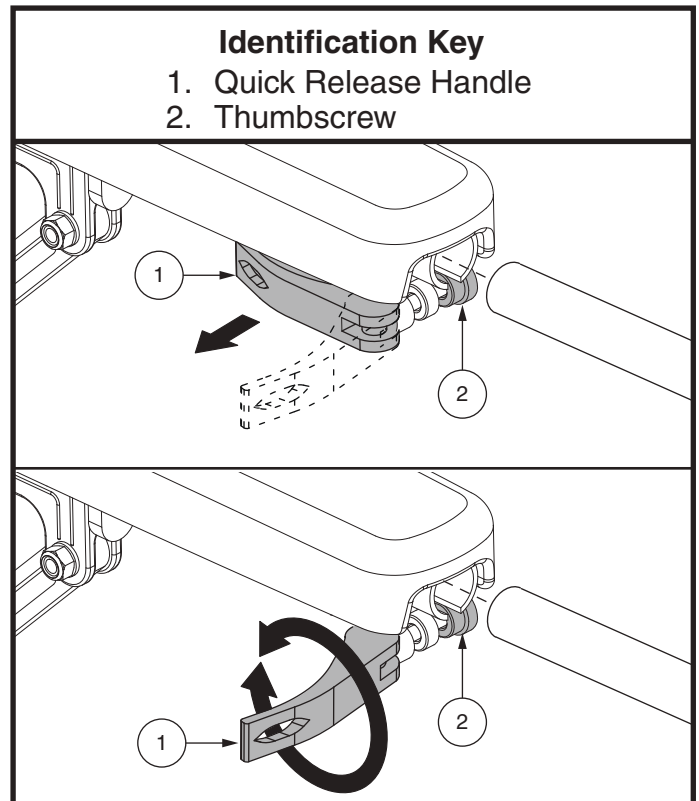

Figure 8. Armrest Component Removal/Installation
2. Unlatch the quick release handle and loosen the thumbscrew. **See figure 8.**
4. Flip up the controller armrest. Unlatch the quick release handle and loosen the thumbscrew. **See figure 8.**